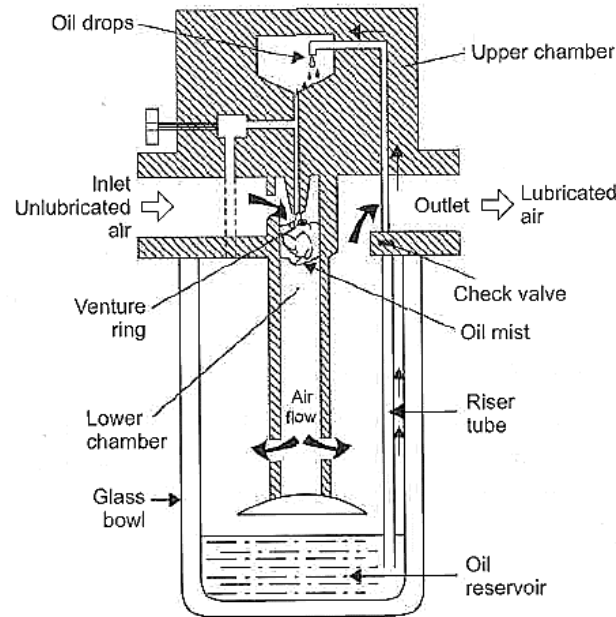

Fig.4.15 Air Lubricator
- ▶ The operation of the air lubricator is similar to the principle of a carburettor. The schematic diagram is shown in Fig.4.15. As air enters the lubricator, its velocity is increased by a venture ring.